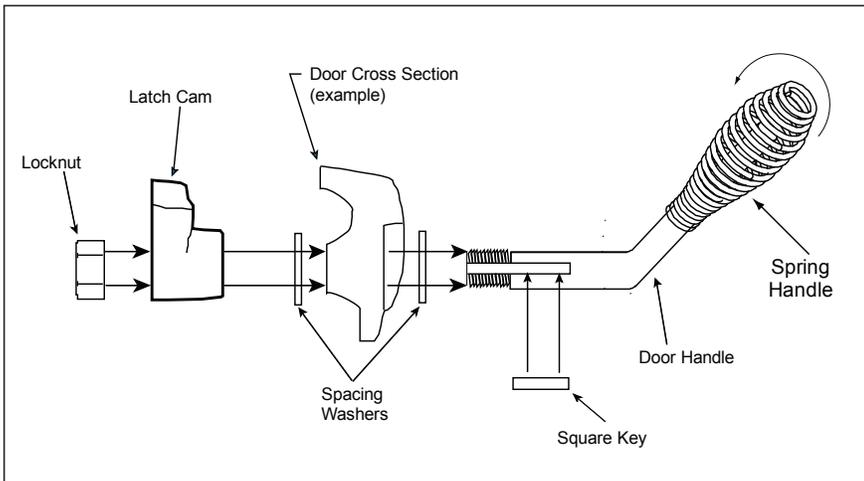

Figure 24.1
3. Install second washer(s) as shown in **Figure 24.1**.
7. Install spring handle turning in a counter-clockwise motion to desired location on door handle rod. **Figure 24.1**.